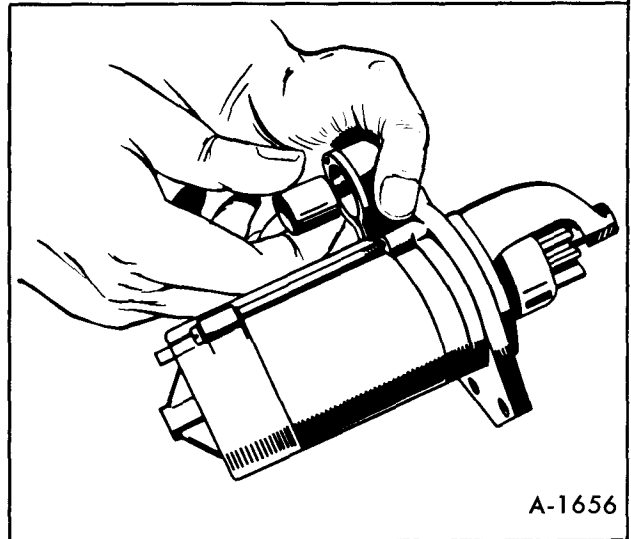

Figure 77—Installing Solenoid Plunger
11. Install the solenoid plunger over the top of the shift lever in the front bracket as shown in Figure 77. Be sure that the pinion gear is moved when the plunger is pulled manually.